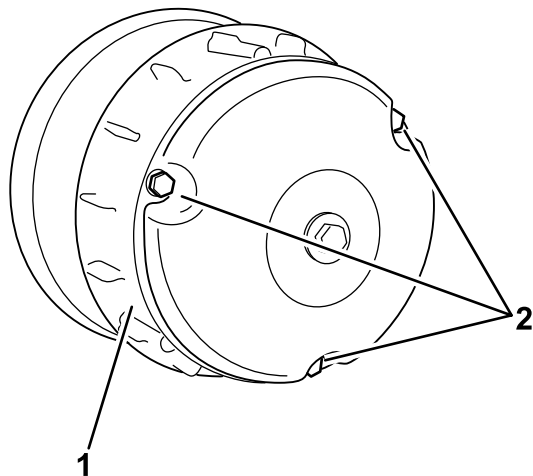

Figure 58
2. Remove the 3 bolts securing the cover to the clutch, and remove the cover (Figure 58).
4. Install the clutch cover and secure it with the 3 bolts (Figure 58) that you removed in 2.